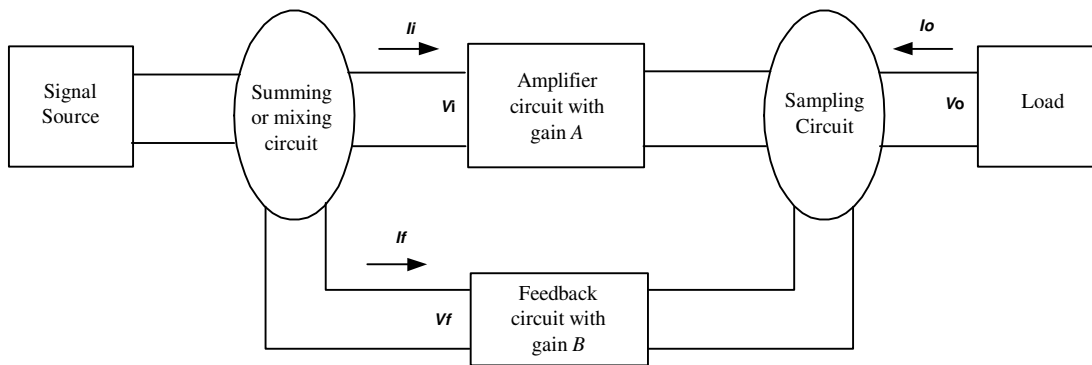

Figure 1 Basic structure of amplifier with feedback network
Feedback can be classified into two categories, a negative feedback and a positive feedback. The first category is the most widely used in all stable systems. Other systems that operate under unstable operating condition mainly use positive feedback. For example, Oscillator uses a positive feedback under certain conditions. The feedback process starts at the output terminals of the circuit or the system to be controlled. A small portion of the output (current or voltage) is taken, then inverted (changing its sign) and added to the input signal. Figure 1 shows the general block diagram of the negative feedback system.
- 1- Identify the feedback topology and the feedback gain B . This refers to Fig. 1.